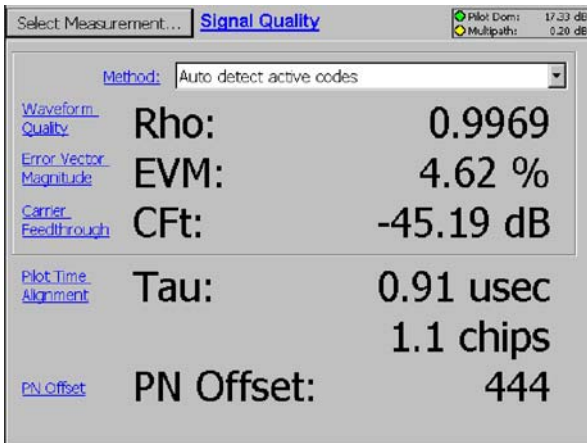

Figure 3-46: A Signal Quality display
5. Tap **Signal Quality**. See Figure 3-46.